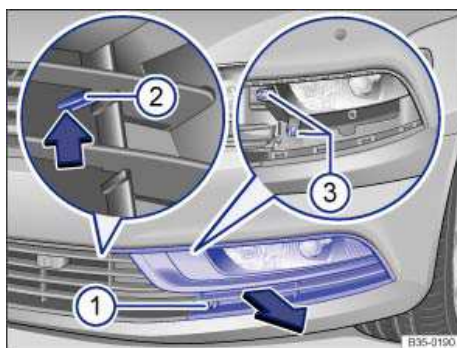
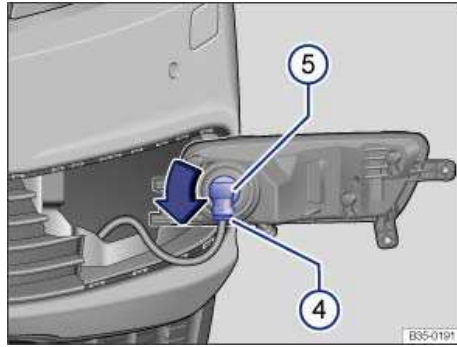

Fig. 197 In the left front bumper: Fog light.
Fig. 198 In the removed light: Replacing the bulb.
2. Remove the screw ⇒ fig. 197 \(1\) using the screwdriver from the vehicle tool kit ⇒ page 382.
3. Press the tab (2) upward in the direction indicated by the arrow to release the retainer.
5. Remove the screws (3) using the screwdriver from the vehicle tool kit.
7. Release the connector ⇒ fig. 198 \(4\) and disconnect it.
8. Turn the bulb (5) counterclockwise until it stops and then remove.
10. Insert the bulb (5) in the housing and turn clockwise until it reaches the original position.
12. Connect the connector (4) on the bulb so that it clicks into place.
14. Install the screws ⇒ fig. 197 \(3\).
15. Insert the cover in the bumper opposite the direction indicated by the arrow . The tab (2) must lock in place.
16. Install the screw (1).